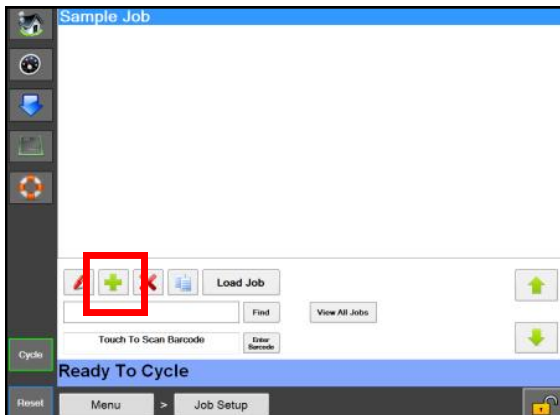

Figure 77A. Job Setup Screen.
2. From the Job Setup Screen, press the Green Plus (+) button. **Figure 77A.**